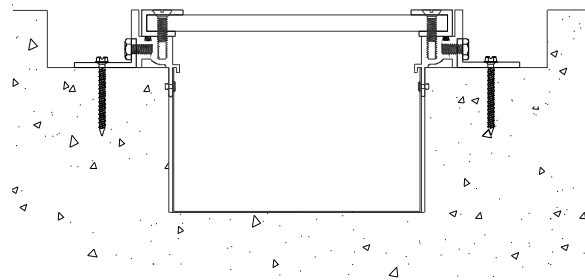

Figure 5
STEP 6. Place the trench cover back into its installed position. Ensure that the trench cover is level, flush, and properly aligned. Using the fasteners provided by the factory, attach the trench cover system to the substrate, see Figure 5.